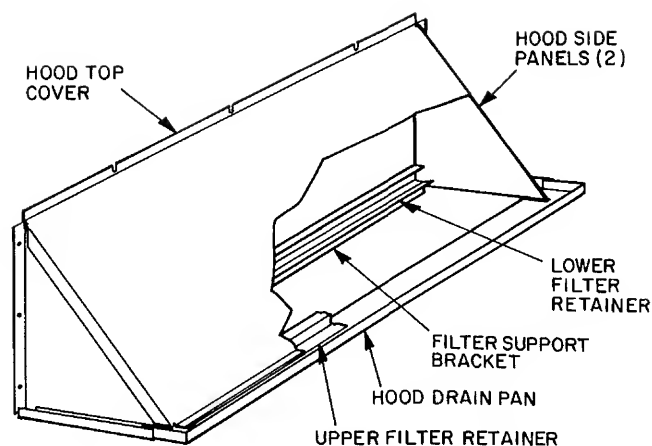

Fig. 17 — Outdoor Air Hood Details
1. Assemble hood top cover, side panels, upper filter retainer and drain pan (Fig. 17).
2. Secure lower filter retainer and support bracket to unit as shown in Fig. 17.